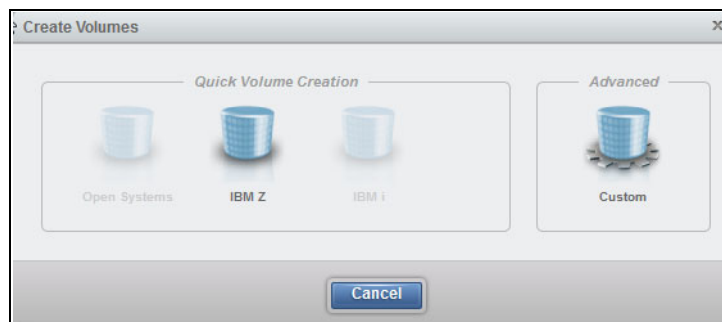

Figure 11-97 Create CKD Volumes: Advanced
1. From the **Create Volumes** window, select **Advanced** (Custom), as shown in Figure 11-97.